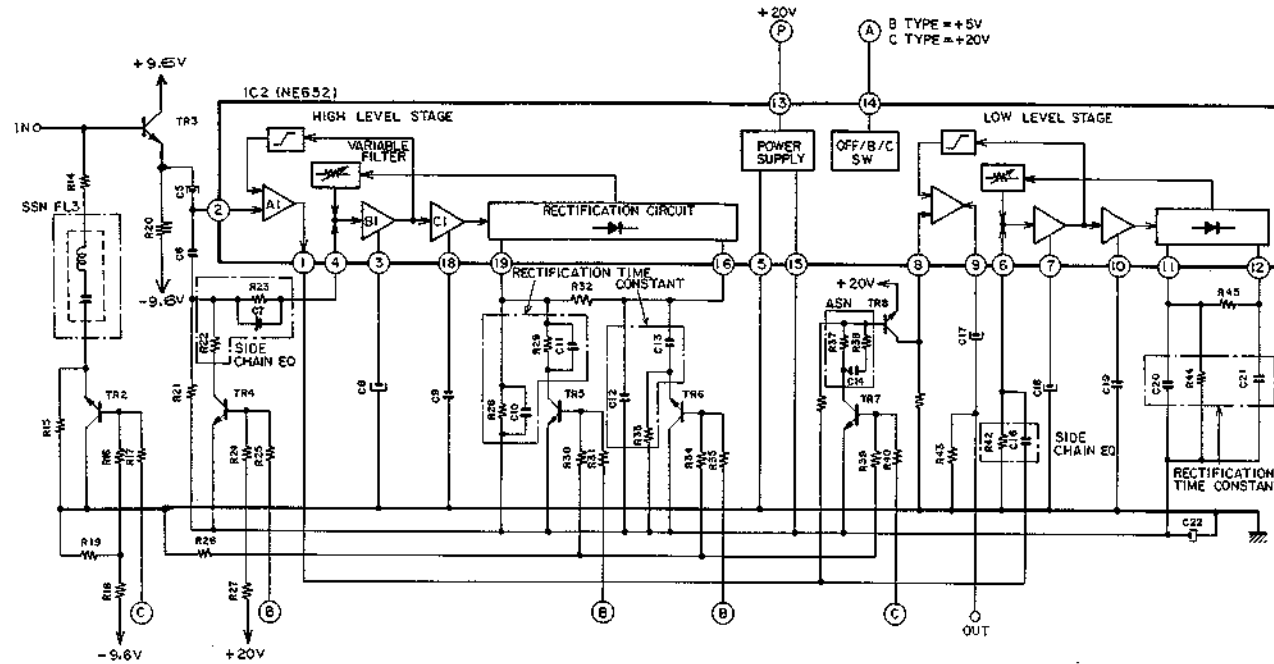
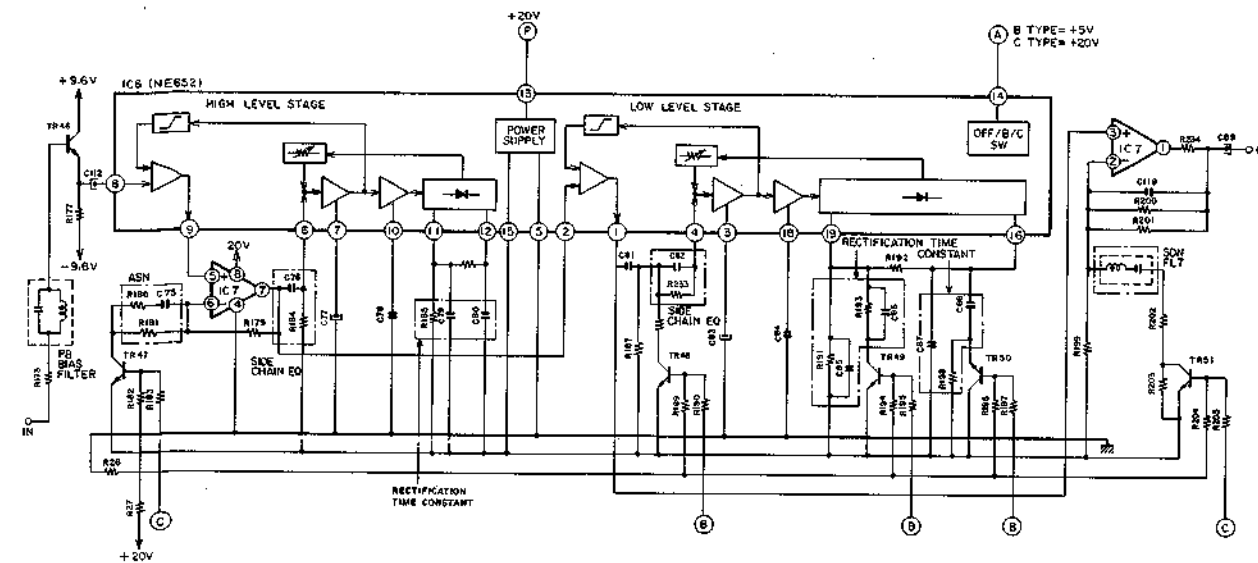

Fig. 6-10 Encode (REC) Circuit
Fig. 6-11 Decode (PB) Circuit
6-10. DOLBY CIRCUIT (Refer to Fig. 6-10, 6-11)
- 1) Fig. 6-10 and Fig. 6-11 show the Dolby NR circuit structure in this model GX-7.
- 3) In recording (encoding) for C-type, the level at the points ③ becomes "H" and TR2, TR7 are turned ON, also the point ① becomes 20V thus the Dolby circuit changes to C-type.